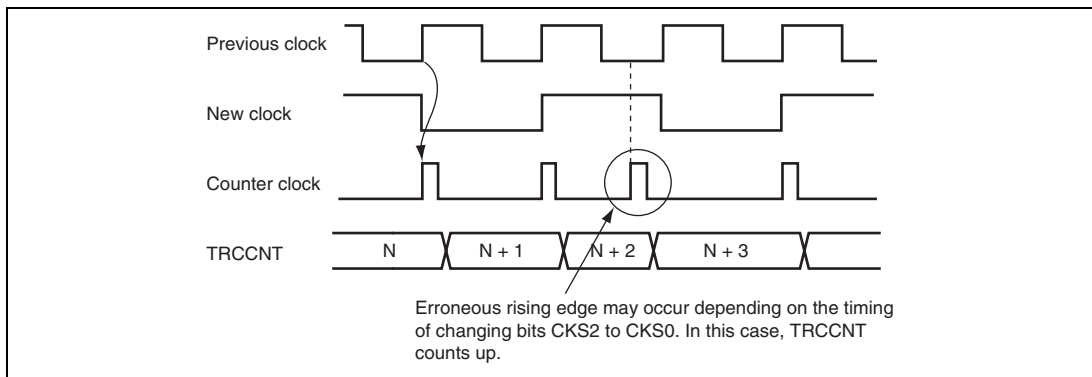

Figure 13.34 Internal Clock Switching and TRCCNT Operation
3. TRCCNT may erroneously count up when switching internal clocks. TRCCNT counts the rising edge of the divided system clock (ϕ) when the internal clock is selected. If clocks are switched as shown in figure 13.34, the change from the low level of the previous clock to the high level of the new clock is considered as the rising edge. In this case, TRCCNT counts up erroneously.